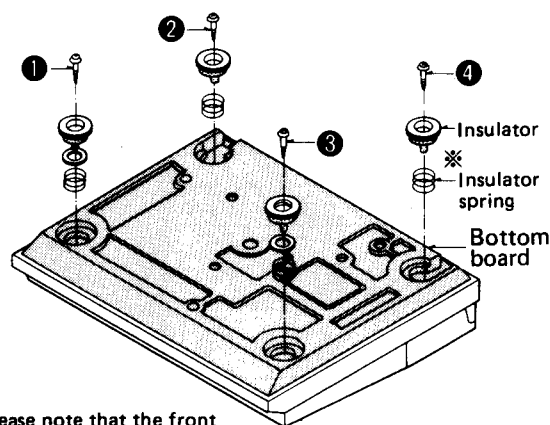

Fig. 1
Remove the insulator and bottom board setscrews ① ~ ④. Then the bottom board can be removed. (See Fig. 1)